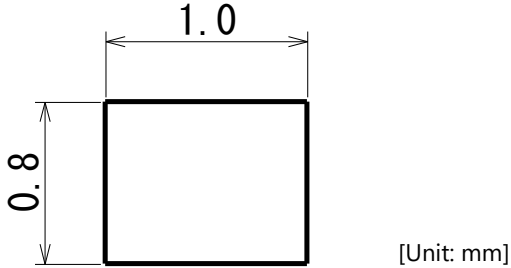

Figure 3. Reference Nozzle Dimensions
- Ensure that an appropriate nozzle is used for the LEDs. Note: For reference purposes, Figure 3 (left) provides the outline dimensions of the nozzles used for the verification (See Table 6 Note).